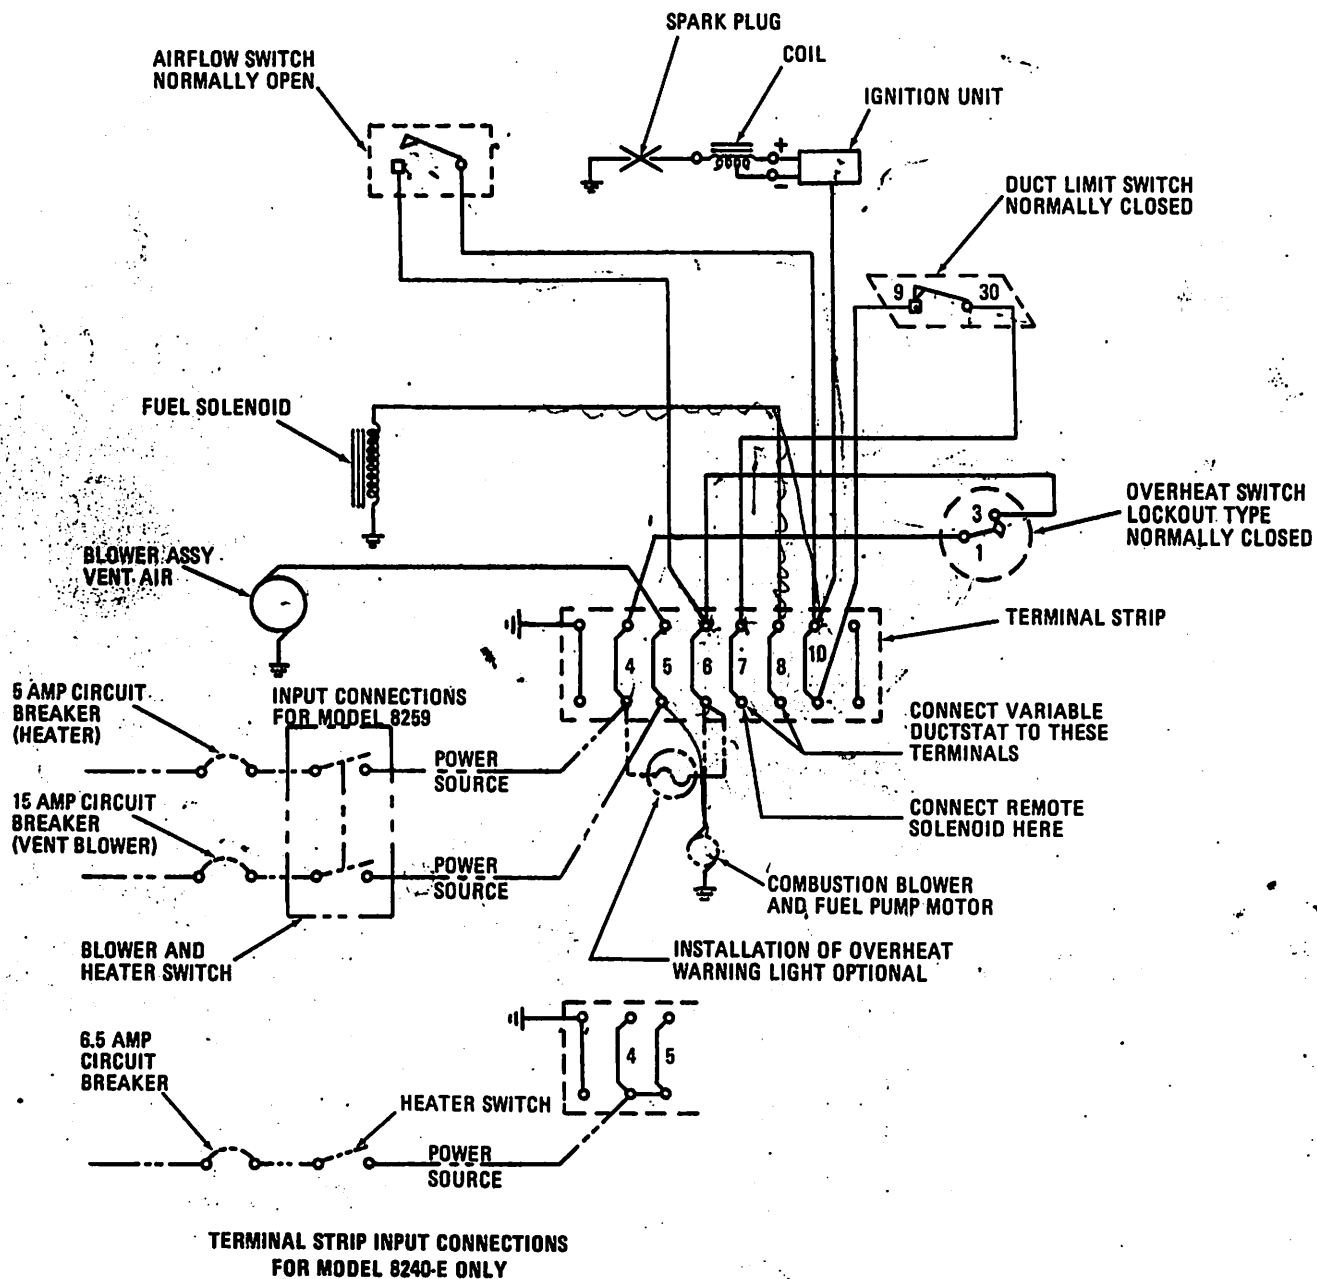

Figure 1-3. Heater Electrical Schematic Diagram
a. Two temperature limiting switches are mounted on the heater case to protect the heater and associated components from overheating. These include the duct limit switch and lockout overheat switch (see figure 1-3).
a. When the heater is turned on, the following sequence of events takes place (see figure 1-3):
(1) The ventilating air blower is energized through terminal 5 of the terminal strip.
(2) The combustion air blower is energized through terminal 4, the overheat switch, and terminal 6.
(3) As the combustion air blower gains speed, air velocity closes the airflow switch. Closing of
d. If the ignition system checks out satisfactorily, the next step is to check the fuel system. For ease in checking, loosen the fuel fitting on the heater to see if there is fuel under pressure at that point. If so, check with a test light to see if there is power at terminal No. 8 on the terminal strip. If power is indicated, the trouble may be in the fuel solenoid, or the fuel nozzle, and the heater will have to be disassembled to correct the problem. If this terminal is dead, check terminal No. 7. Power at this point but not at No. 8 would indicate the trouble was in the thermostat, or the thermostat wiring. If there is no indication of power at No. 7 check back, with the test light, through the duct limit switch to the airflow switch, using the wiring diagram (figure 1-3) as a guide. Power at the airflow switch, but not at terminal 7, indicates a defective duct limit switch. Replace the airflow switch if there is power at terminal 6, but none at terminal 10.
Spark to spark plug	Fig. 1-3, electrical schematic
Power to heater solenoid coil (8); if none there, check: Thermostat	Fig. 1-3, electrical schematic Fig. 1-3 and Par. 1-13a(4)